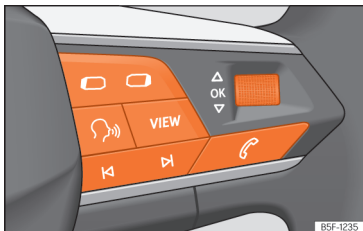

Fig. 14 Right side of multifunction steering wheel: buttons to the menus and informative indications on the instrument panel (depending on the version).
As long as a priority 1 >>> page 26 warning is active, it will not be possible to access any menu. Some warnings can be confirmed and hidden with the button **OK** of the multifunction steering wheel >>> Fig. 14.
- If a message or vehicle symbol is displayed, press the button **OK** >>> Fig. 14; several times if necessary.